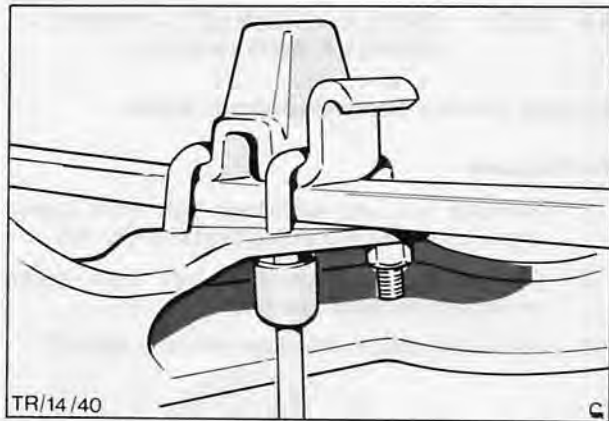

Fig. 40. Tightening spring 'U' bolts
12. Tighten rear spring hanger and front eye nuts to the specified torque. Tighten spring 'U' bolts, refer to Technical Data for correct procedure, Fig. 40.